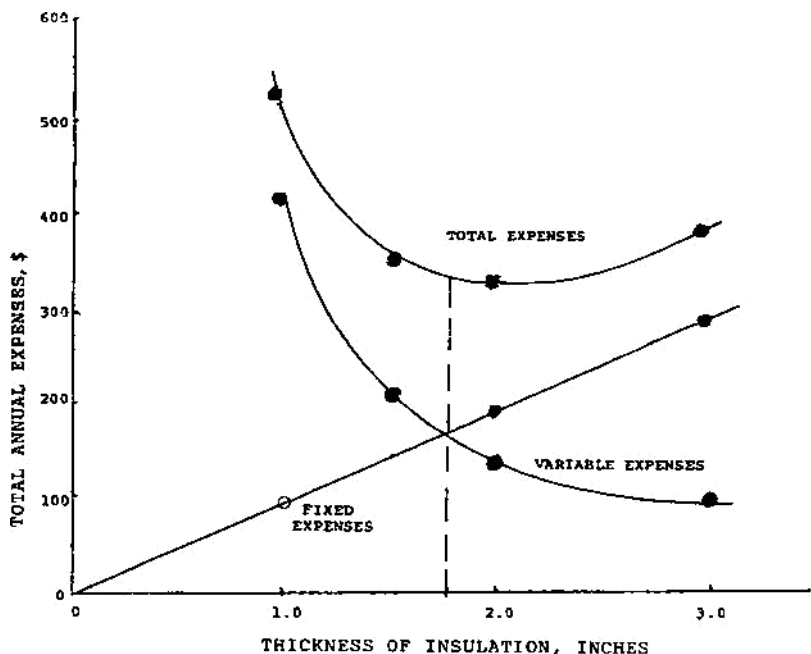

FIGURE 5.1 Optimum thickness of insulation—typical results.
As a general rule, variable operating expenses decrease with increasing equipment size while fixed expenses increase with increasing size, as shown in Figure 5.1.
4. Ascertain if the optimum size must be one of a number of discrete sizes that are commercially available or whether it can be any size. For example, pipe insulation as shown in Figure 5.1 can only be purchased in standard thickness. Distillation towers, heat exchangers, rotary driers, etc. may be fabricated in any size specified by the design engineer.
For a reasonable range of sizes, the fixed and variable expenses in the total expense equation are calculated and tabulated. For piping and insulation, discrete commercial sizes are selected. The graphical method is shown in Figure 5.1. For equipment that is not fabricated in discrete sizes, the selection is dictated by the design engineer or by common engineering practice. The optimum is found by plotting the fixed expenses, variable expenses, and the total expense curves as a function of the controllable variable. From the plot, one may observe the nature of the optimum and provide a basis for judgment. If the curve has a sharp minimum, the indicated size is correct; however, if the total expense curve is relatively flat, there is some latitude in the choice. For instance, if the proposed investment is to be a minimum, the smaller equipment size is selected, whereas, if a margin for increased capacity is desirable,